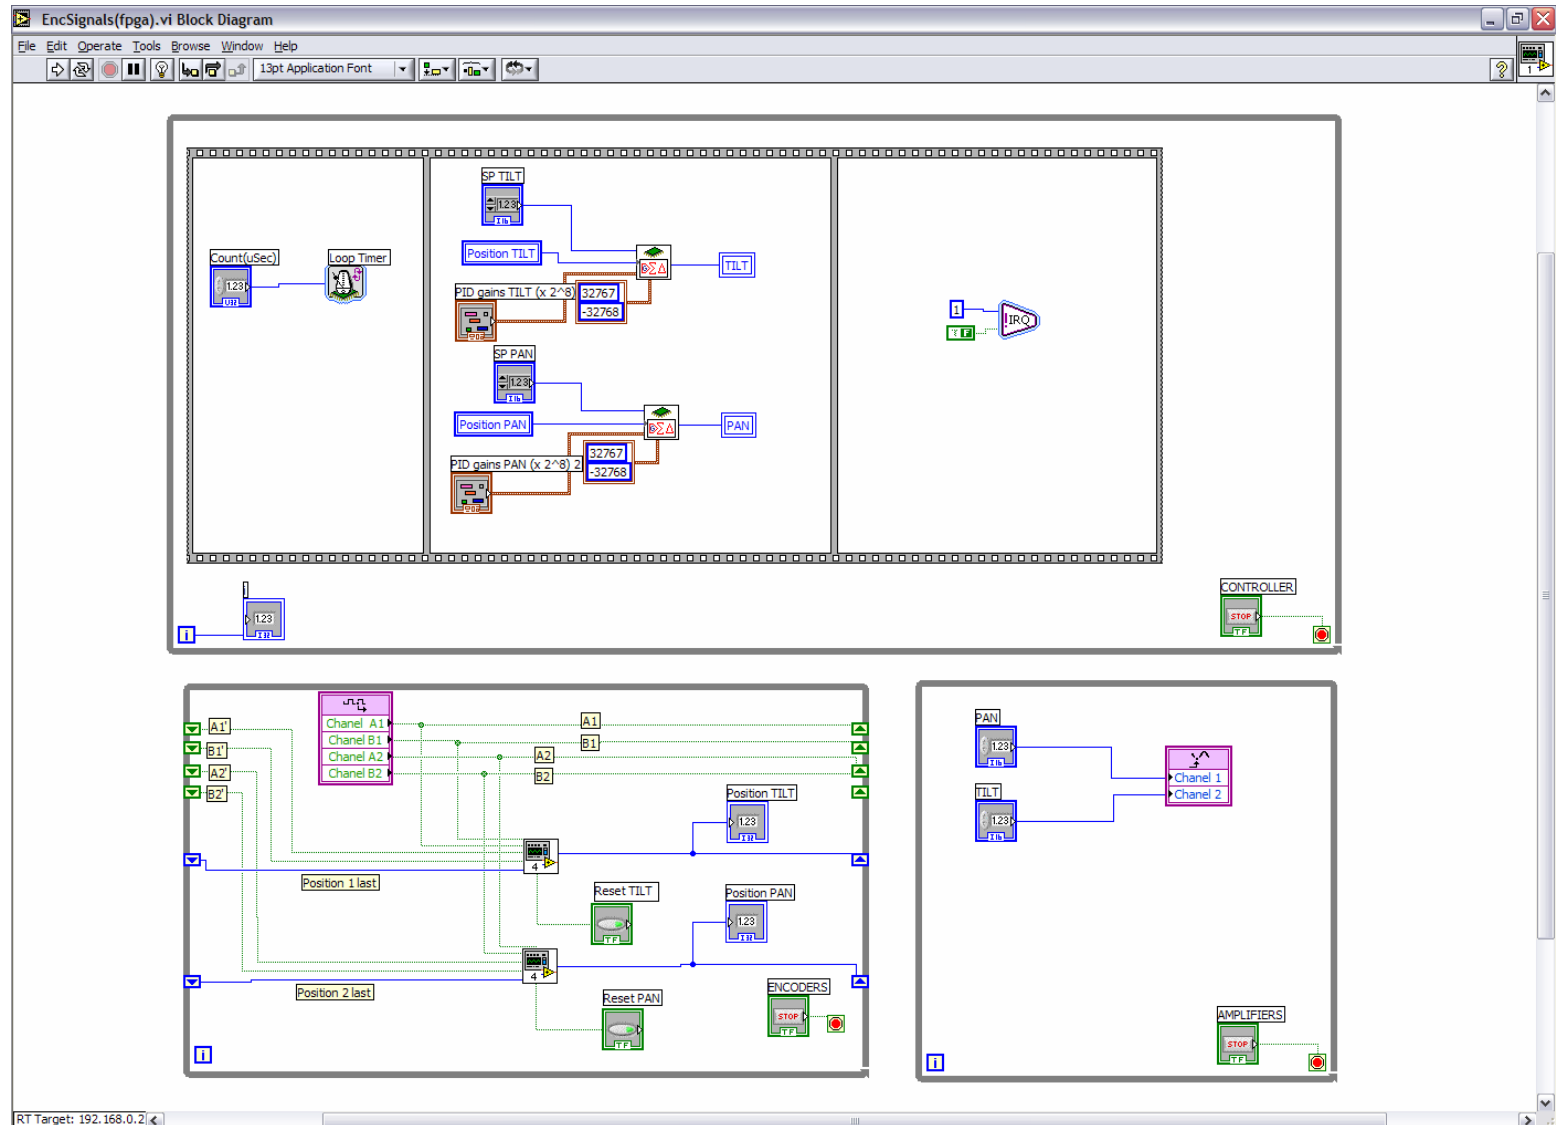

Figure 1
Build the FPGA application shown below in **Figure 1**. For detailed instructions, refer to the instructions below:
- On the block diagram, use the subvi **EncSignalSub1(fpga).vi** and make the interconnections shown in the lower left While Loop of **figure 1**.
22. Finally, in the In the third frame of the Flat Sequence Structure place an Interrupt function and connect it as it is shown in **figure 1**. The **Interrupt** function is on the **FPGA Device I/O» Advanced FPGA Device I/O** palette.